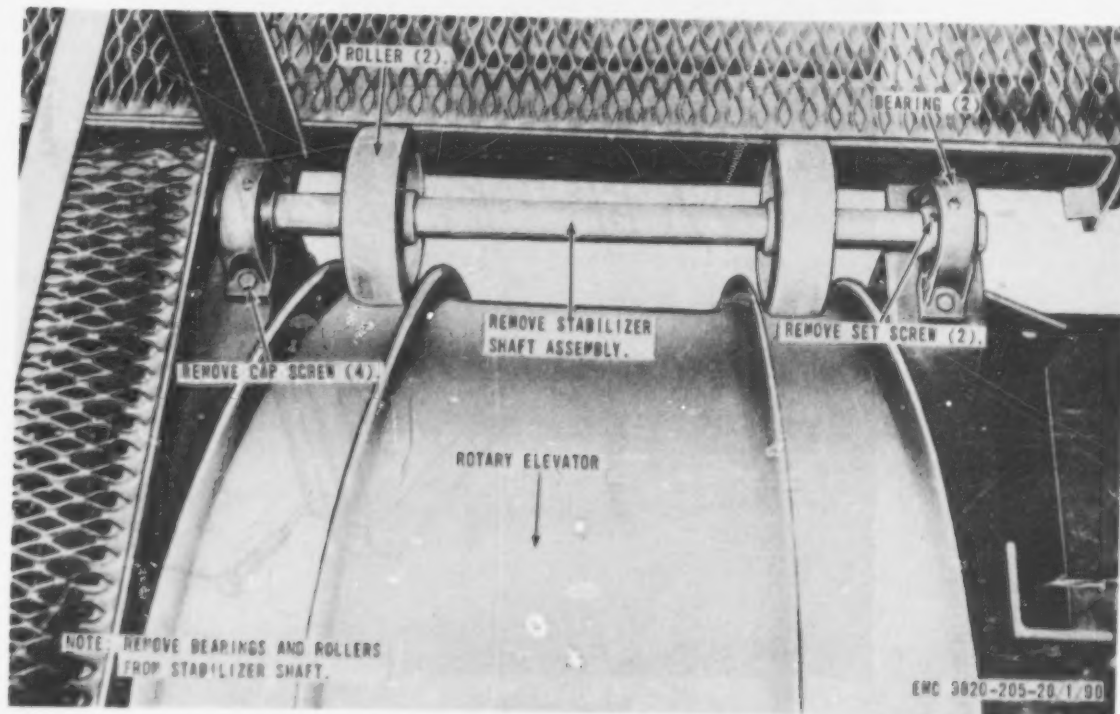

Figure 95. Roller stabilizer and bearing, removal and installation.
a. Removal. Remove the roller stabilizer shaft assembly from the unit as instructed on figure 95.
c. Installation. Install the roller stabilizer shaft assembly on the unit in reverse of the instructions on figure 95.